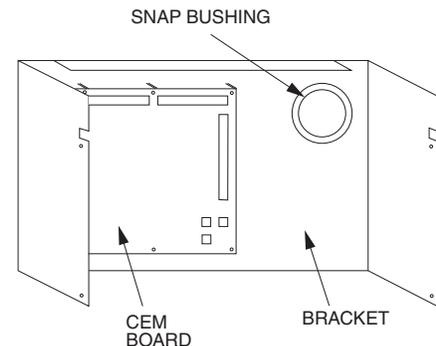

Fig. 1 — CEM Board and Mounting Bracket
3. Install CEM board onto the mounting bracket with 5 no. 6B-20 x 3/4-in. screws. Add snap bushing. See Fig. 1.